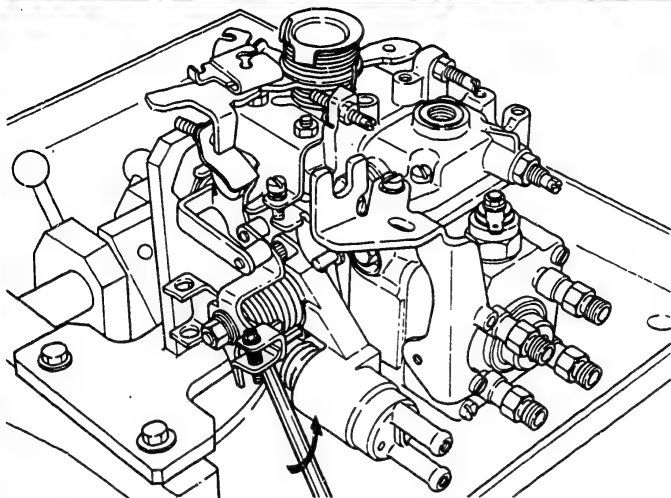

Fig. 158 Removing the wax-cold start device
3. Remove the two screws (282), using a hexagon wrench, to remove the wax-cold start device (280) from the injection pump. (Fig. 158)